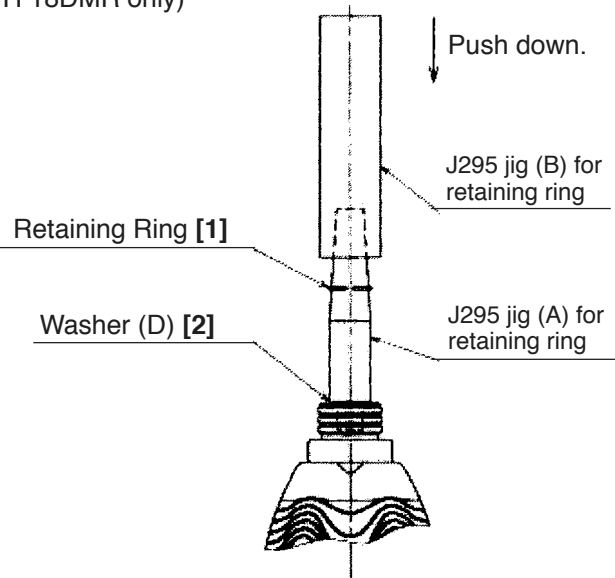

Fig. 18
(6) Mounting Guide Sleeve (D) [4] (Models WH 14DMR/WH 18DMR only)
Insert the two Steel Balls D3.5 [9] into the hole of the Anvil [10]. Mount Guide Sleeve (D) [4], Guide Spring (A) [3] and Washer (D) [2] in sequence. Mount the Retaining Ring [1] into the groove of anvil using the J295 jigs (A) and (B) for retaining ring as illustrated in Fig. 18.